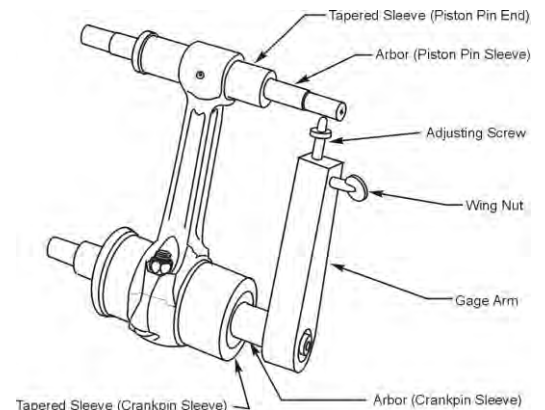

Figure 37
- B. Insert the tapered sleeves (Figure 37) of the Connecting Rod Parallelism and Squareness Gage P/N 64530 in the bearing holes in the connecting rod.
- D. Install the gage arm on the arbor as shown in Figure 37.